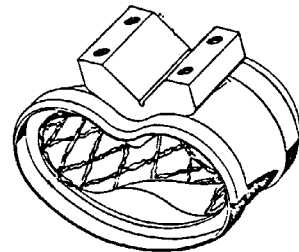

Figure 3.
Step 2. Using a wire feed welder (inert gas), lay on the hard facing with a minimum amount of penetration, (See Figure 3)